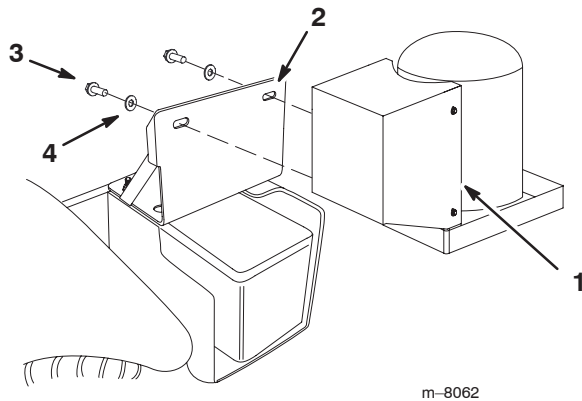

Figure 16
9. Install the tank/compressor assembly to the Multi-Pro 1200 series adapter bracket using 2 bolts (3/8 x 1 inch), 2 flat washers (3/8 inch) as shown Figure 16.